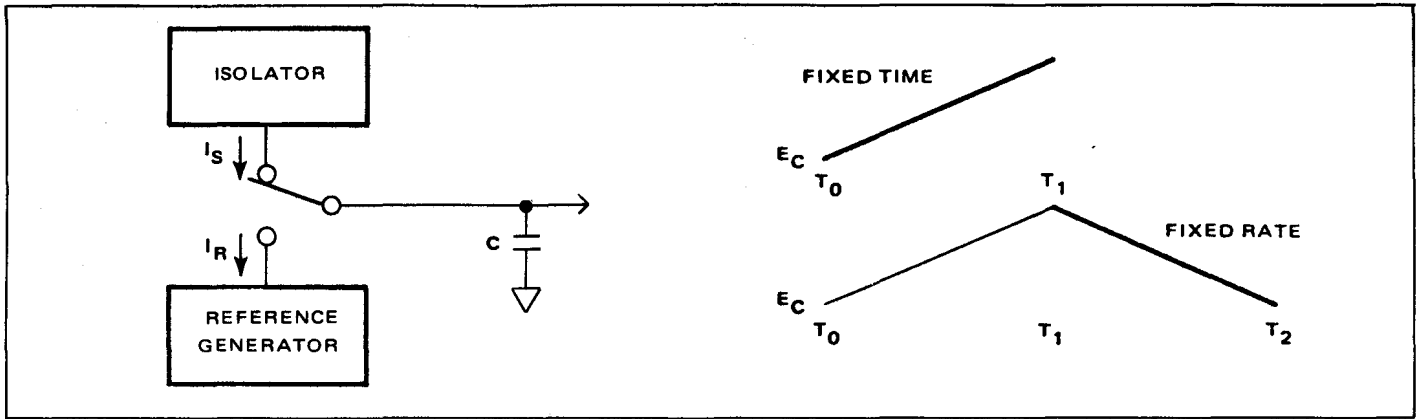

Figure 4.2 - Dual Slope Integration
4.8 The integrator is a dual-slope conversion device which charges a capacitor for a fixed time period to a level which is dependent upon the level of the measurement signal (see figure 4.2). The capacitor is then discharged at a fixed rate by switching a reference signal of opposite polarity onto the input of the integrator. As the capacitor discharges it crosses the zero volt level and begins to charge in the opposite direction. A null detector in the integrator circuit senses this zero-crossing and produces a "null-detect" signal. The null detect signal is used by the Timing and Control circuits to stop the measurement counter. Thus, the count value in the measurement counter is a direct digital representation of the measurement signal voltage applied to the instrument.